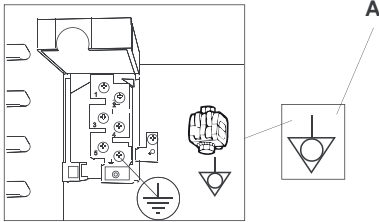

fig. 5
- The yellow/green power supply cable must be secured in the clamp marked with the grounding symbol (see fig. 5).
- The oven must be included in an equipotential system the connection of which will have to be performed using a cable with a minimum section of 10 mm2 connected to the clamp (A - Fig. 5) marked with the symbol placed on the backside of the oven.